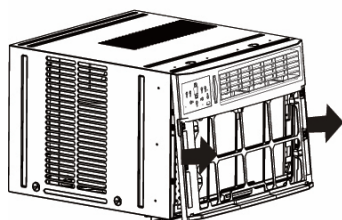

Fig.3
4. Push both sides of the metal cabinet to release the plastic tabs on each side of the front panel. (See Figure 3)